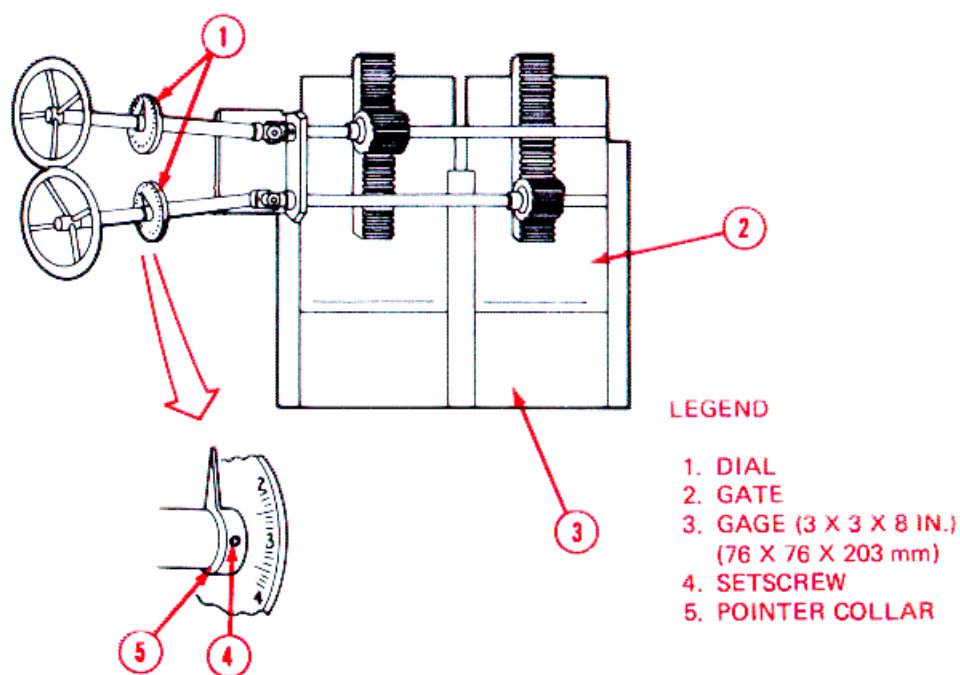

Figure 3-32. Stone and Sand Gate Adjustment.
- (1) Raise gate to full open position.
- (2) Place gage (3, fig. 3-32) on the conveyor belt directly below gate, in a horizontal position.
- (3) Lower the gate (2, fig. 3-32) to rest firmly on the gage.